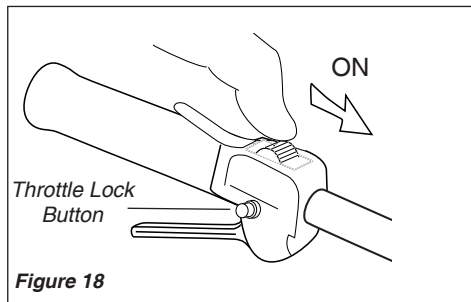

Figure 18
1. Slide the ignition switch to the "ON" position. See Figure 18.
- c. While depressing the throttle lock button, release the throttle lever. See Figure 18.